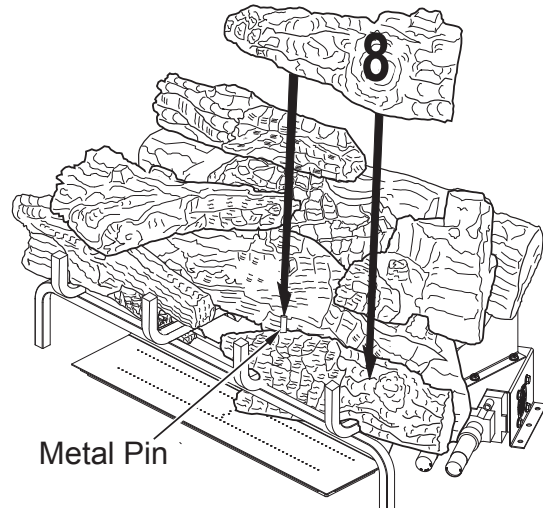

Figure 29 - Installing Log # 8
8. Place the front right mid log (#8) on top of the front right log (#4) as shown in **Figure 29**. Match the round metal pin on the top of the front right log (#4) with the round hole on the bottom of the front right mid log (#8).